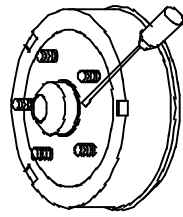

Figure: 4.9.1
- a) With a screwdriver blade inserted between the flange of the grease cap and the hub, remove the cap. (See Figure 4-9.1).